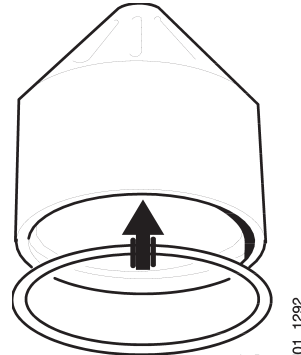

Figure 6
10. Install the O-ring in the rotor bowl (Figure 6).